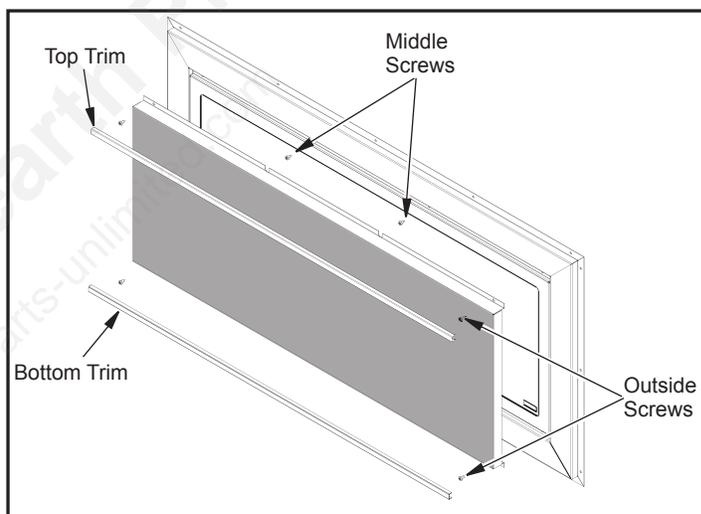

Figure 43 - Removing Exterior Glass Door for Cleaning
1. Using a flat head screwdriver, pop out the top and bottom trim pieces as shown in figure 43.
1. Using a flat head screw driver, pop out the top and bottom trim pieces as shown in Figure 43.